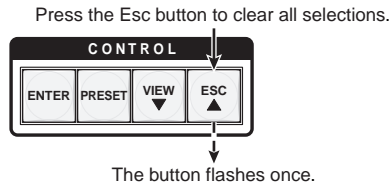

Figure 3-11 — Clear all selections
1. Press and release the Esc button (figure 3-11).